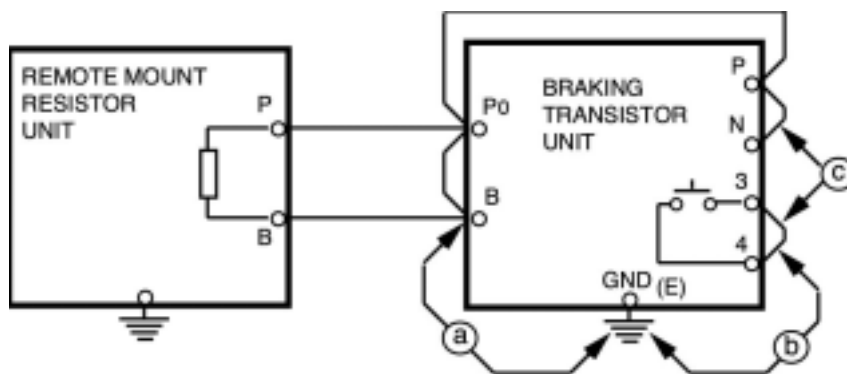

Fig 2.11 Braking Transistor Unit Jumper and Megger Points
- Measure the insulation resistance at points a, b, and c in Fig 2.11 below with the megger.